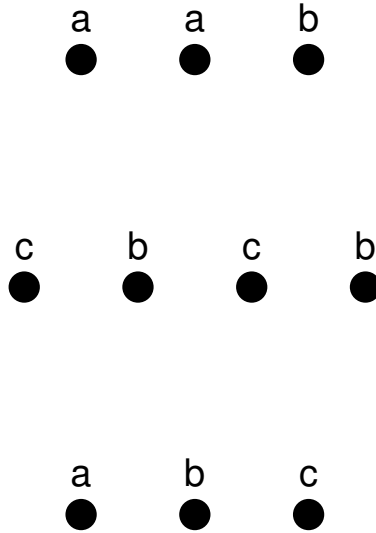

Figure 5: PCB routing.
2. [3 pts.] See Figure 5. Each dot represents the position on a PCB of a through-hole to which a component pin will be soldered. Dots sharing the same letter must be connected by copper traces, but dots with different letters must not be electrically connected. What is the minimum number of copper layers to appropriately connect all the dots? You can show your work directly on Figure 5.